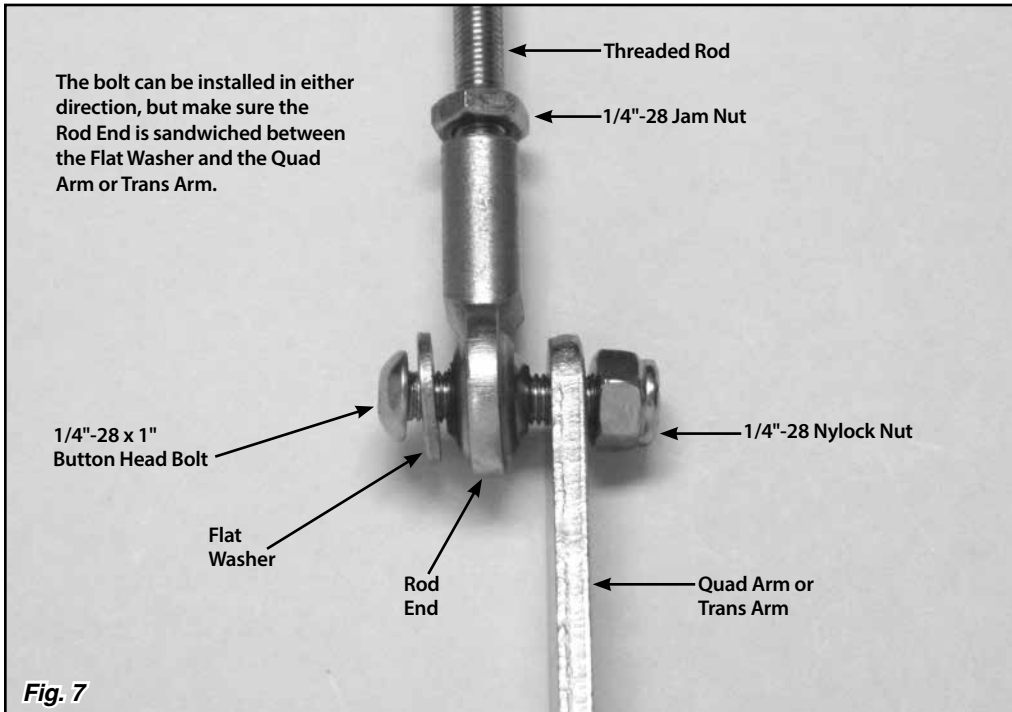
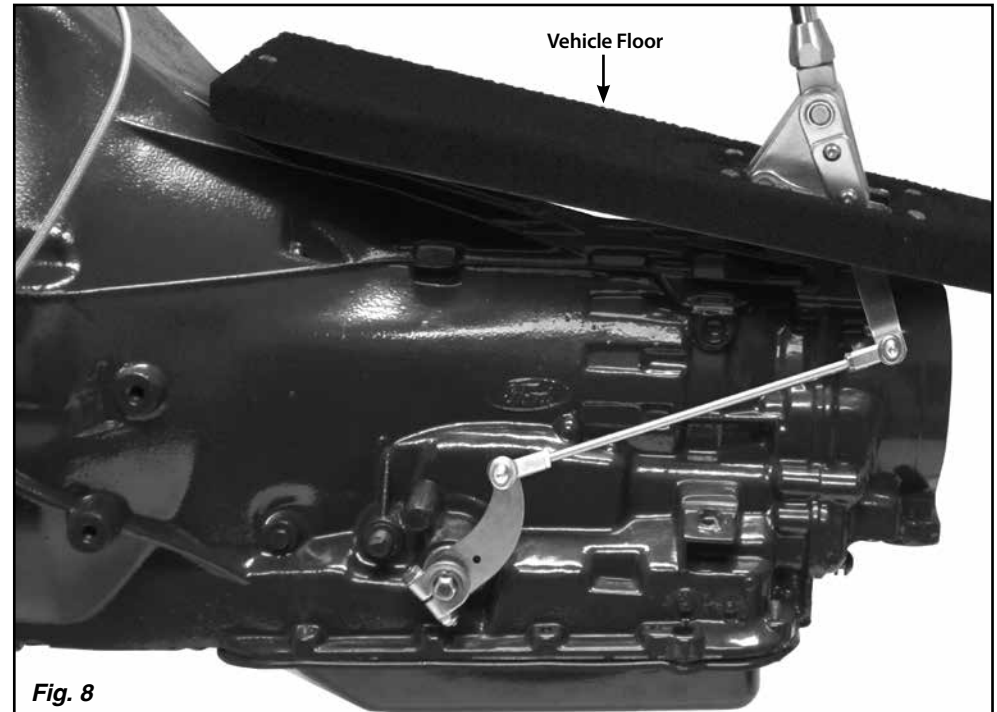

Fig. 7
Fig. 8
**Step 11:** Verify that both 1/4"-28 jam nuts are on the threaded rod, and install a rod end onto each end of the threaded rod. Position the rod ends on the inside or outside of the quad arm and trans arm so that the threaded rod is as straight as possible. Attach the threaded rod assembly to the inside or outside of quad arm and trans arm using the 1/4"-28 x 1" button head bolts, flat washers, and nylock nuts as shown in **Fig. 7**. The button head bolts can be installed from either direction, but make sure the rod end is sandwiched between the flat washer and the trans arm or quad arm. **Fig. 8**